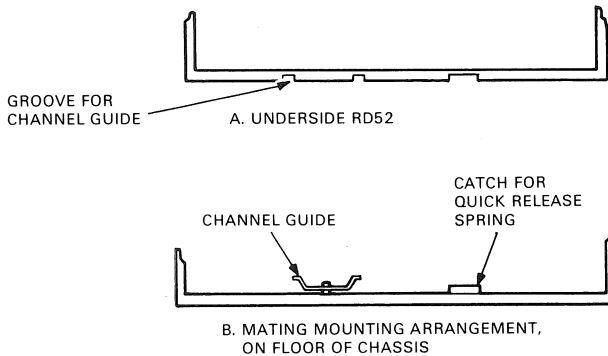

Figure 4-12 RD52-D, -R Subsystem Groove and Channel Guide
2. Align the the groove on the bottom of the disk drive with the channel guide on the floor of the chassis, shown in Figure 4-12.